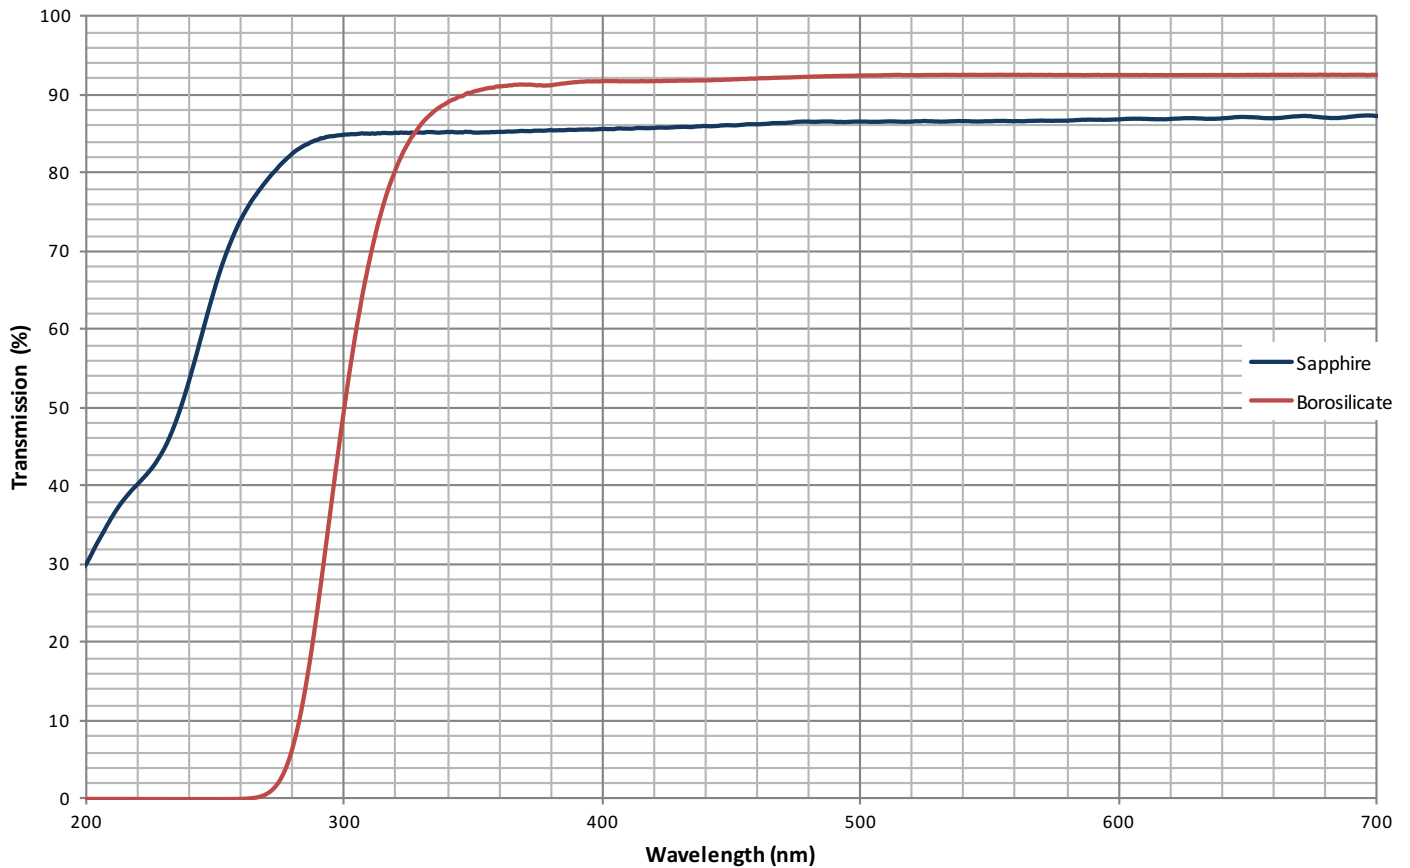

FIGURE 1. PERCENTAGE TRANSMISSION COMPARISON FROM 200-700NM OF BOROSILICATE AND OPTICAL GRADE SAPPHIRE.
In optics, transmission is a measure of how much light propagates through a medium. Optical materials have different transmission properties depending on what they are made from and what impurities they contain. Depending on application and/or performance characteristics, optical elements can be made from many different materials. For example, many standard glasses, like borosilicate, do not transmit well in the ultra violet (UV) wavelengths of light, whereas sapphire transmits well down to 200nm (fig. 1).